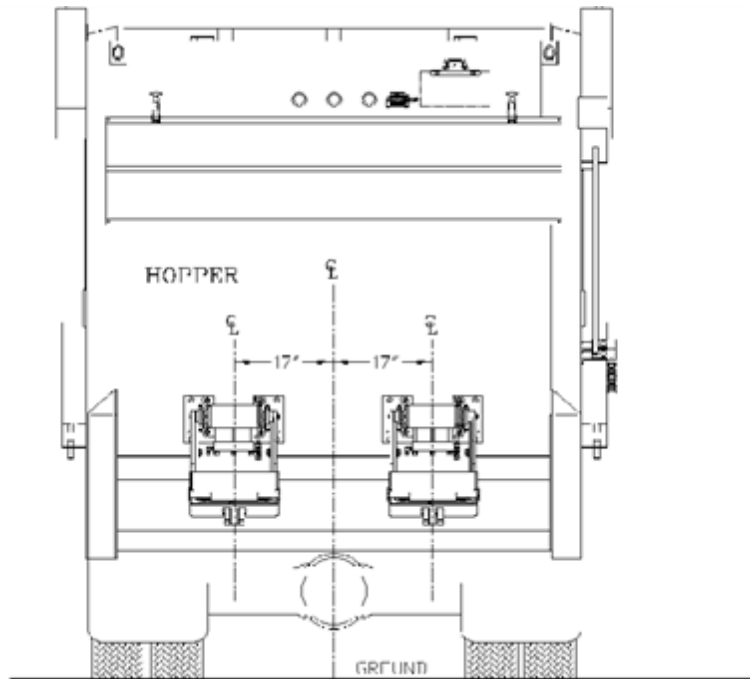

Figure I-1
3. Position the lifter(s) on the sill of the truck per figure I-1 and mounting height drawing (Appendix A) and tack weld in place. If using a mounting plate kit for bolt on applications, tack weld the mounting plate in place and attach the lifter to the mounting plate using the 1/2" studs. Tack weld only at this time so that adjustments can be made if necessary.